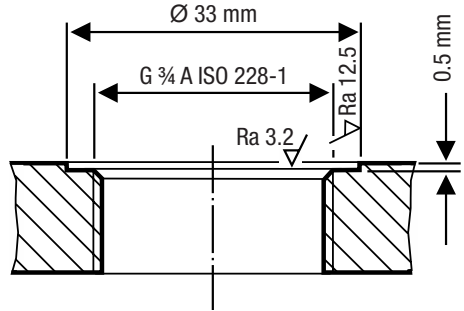

Fig. 6
- Inspect the sealing surfaces of the tank standpipe or flange cover to ensure they are perfectly machined, see Fig. 6.
Sealing surfaces must be perfectly machined, as shown in Fig. 6.